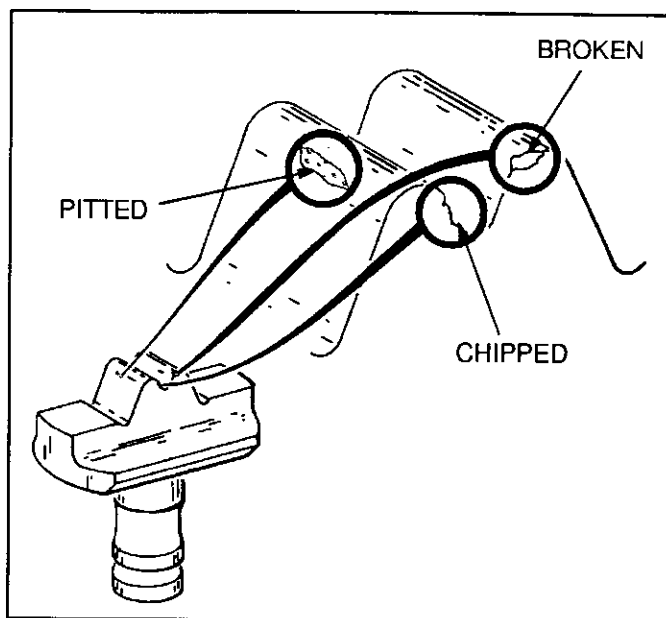

Fig. 6
A. Visual Inspection (Figure 6)